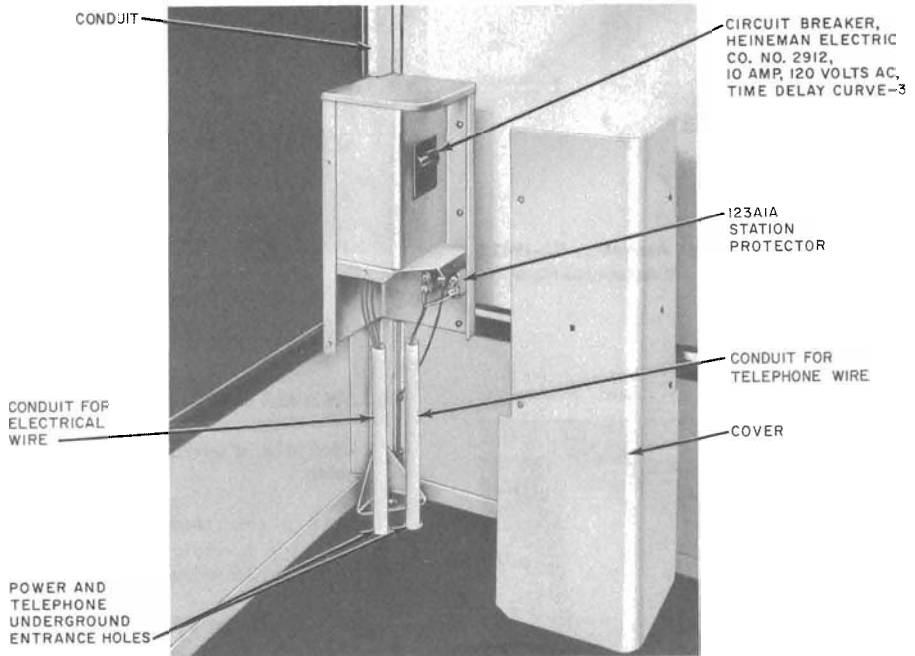

Fig. 8—Circuit Breaker and Associated Apparatus
of the booth (Fig. 8). It is used for underground or ground level power and telephone wire entrances. The kit includes two power leads and a divided rectangular conduit for enclosing wire from junction box to ceiling.
- (b) Through metallic conduit (Fig. 8) to holes provided in the left rear corner of the booth: floor (for underground entrance).